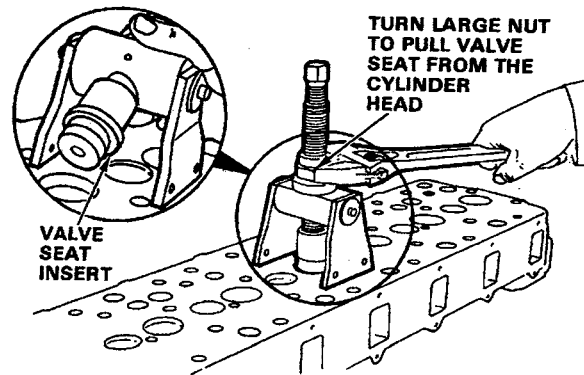

Figure 4.51. Pull Valve Seat Insert from Cylinder Head
- c. Turn the large nut on the bridge assembly to pull the valve seat insert from the cylinder head. Refer to Figure 4.51.